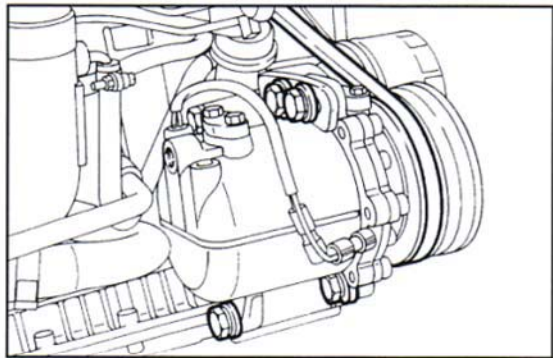

Fig. 9 ▲
- slacken the four air conditioner compressor mounting screws and slip the belt off (Fig. 9);